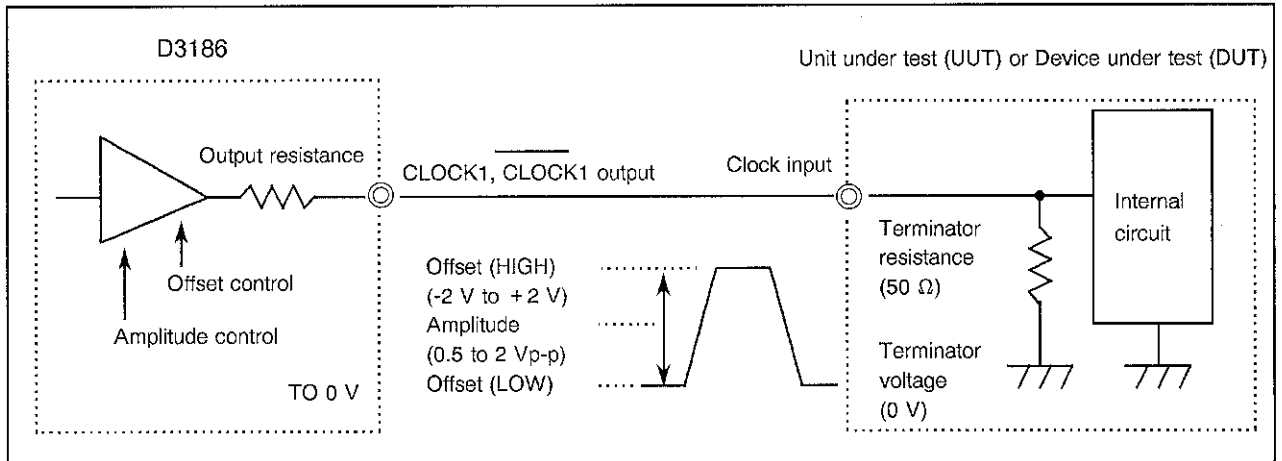

Figure 4-4 CLOCK1 and CLOCK1 Output, DC Connection, 0 V Termination
- (1) When the UUT/DUT clock input connection is DC and the offset value should be set: Use CLOCK1 or CLOCK1.
- (a) When the terminator voltage of the UUT/DUT clock input is 0 V (see Figure 4-4.):